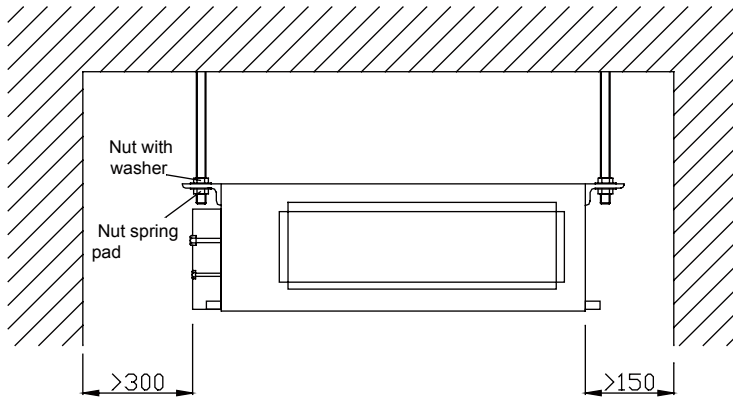

Fig.3
- D. Ensure the installation distance of the indoor unit as shown in fig.3 and also the necessary space for care and maintenance.